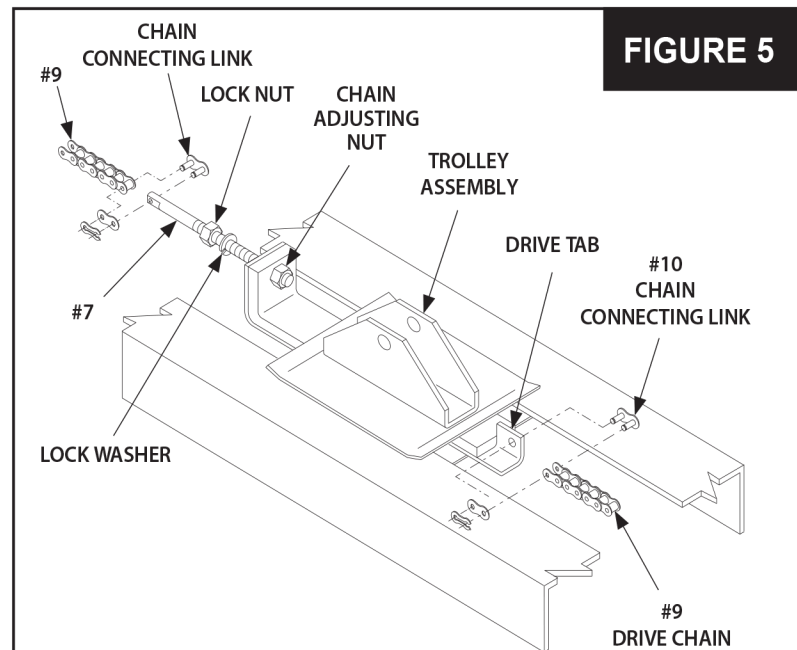
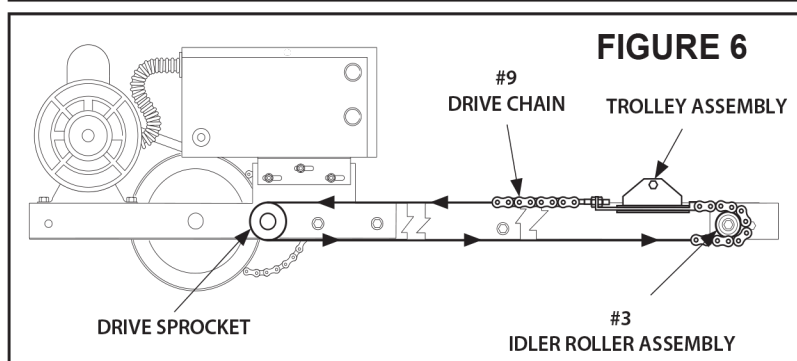

FIGURE 5
FIGURE 6
3. Turn operator assembly over and back off Chain Adjustment Nut to the end of the threads on Chain Take-up Bolt (#7). See **Figure 5**.
5. Thread one end of the Operator Drive Chain around Operator Drive Sprocket and connect to the Chain Take-up Bolt (#7) on Trolley Assembly with a Chain Connecting Link. See **Figure 5** and **Figure 6**.
6. Thread the other end of the Drive Chain (#9) around the Idler Roller Assembly (#3). See **Figure 6**.
8. Attach cut end of Drive Chain (#9) to Drive Tab on Trolley Traveler Assembly with a Chain Connecting Link. See **Figure 5**.
9. Adjust chain tension using Chain Adjusting Nut to remove excess slack. See **Figure 5**.
10. Lock in adjustment using Lock Washer and Lock Nut on Chain Take-up Bolt. See **Figure 5**.